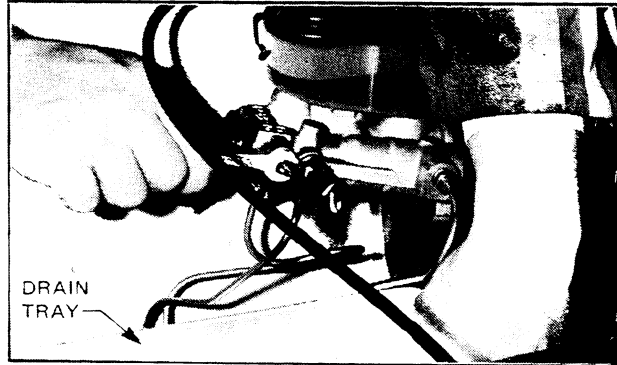

Figure 5-1
3. Allow master cylinder to drain, until empty. (Refer Fig. 5-1).